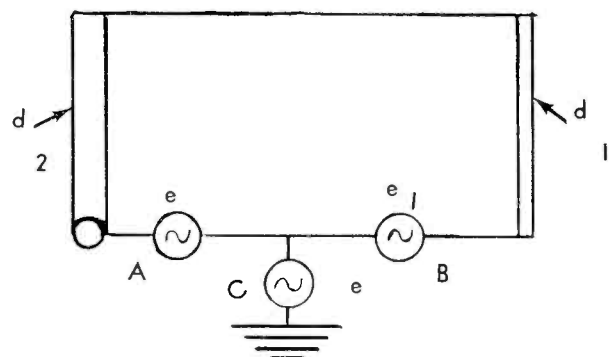

Figure 3. The folded unipole antenna with unequal size conductors.
Up to this point, we have discussed equal size conductors, that is the diameter of the tower and the fold is the same. However, with the introduction of the transformation ratio, as noted in (2), we are now prepared to discuss the operation of a folded-unipole antenna with unequal diameter conductors. Figure 3 illustrates the folded-unipole antenna with unequal size conductors.